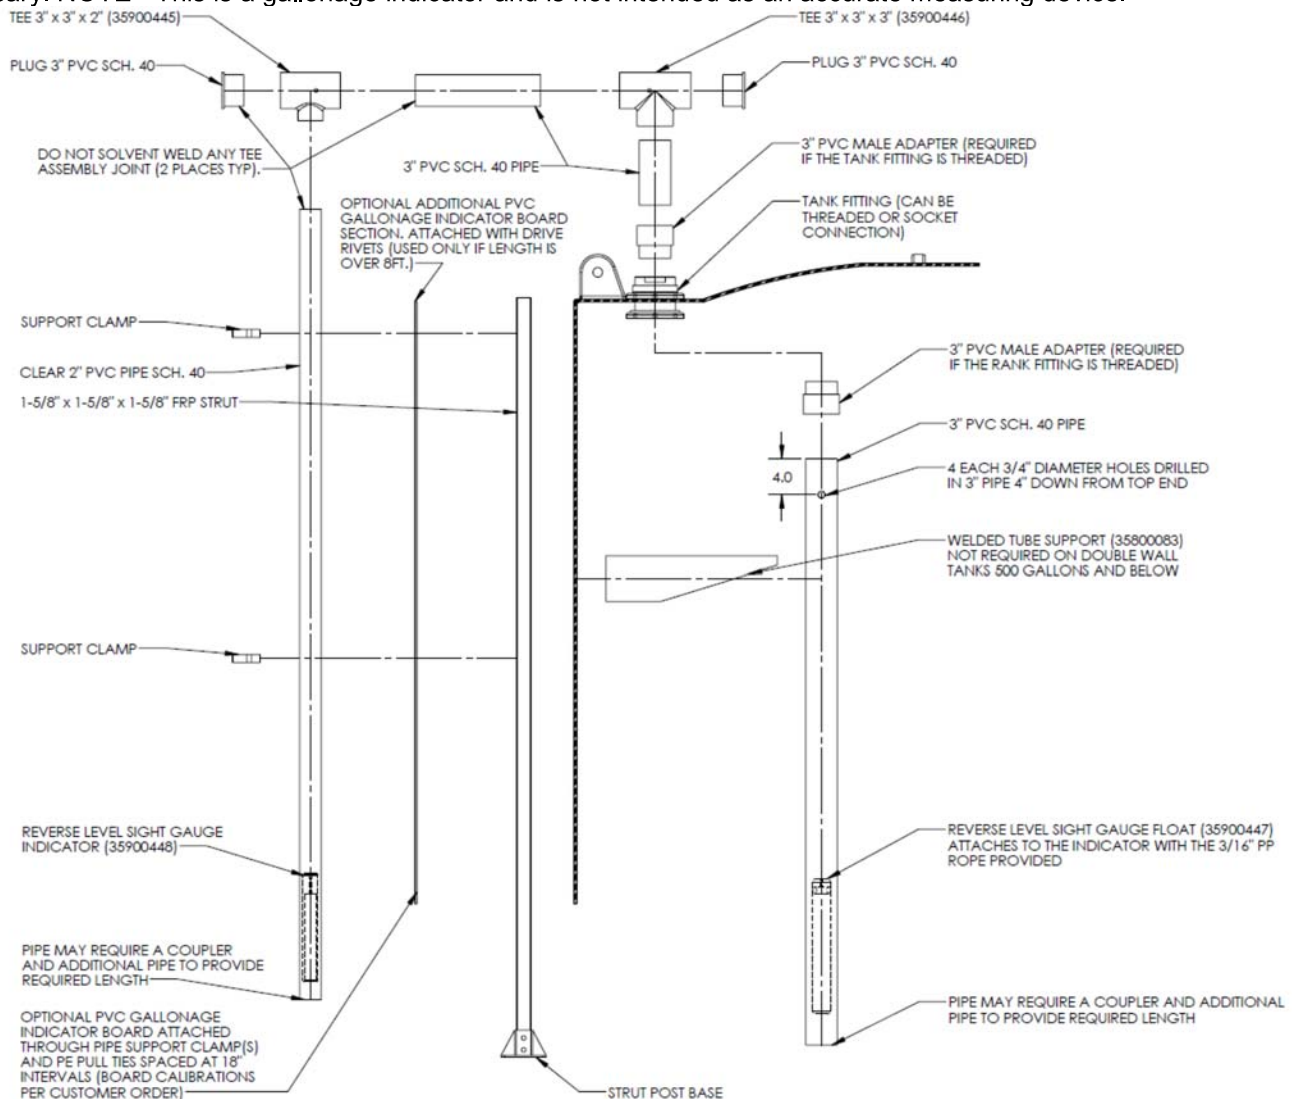

Figure 7.8
7.9.2 Assemble the piping loosely using Figure 7.8, the guidelines detailed below, and the customer approved tank drawing to ensure all parts are present and cut to length. As soon as all parts have been checked, assemble the parts with solvent weld cement and/or threaded connections as shown in Figure 7.8. NOTE - Do not use solvent weld cement on the PVC plugs as indicated in Figure 7.8 to allow for periodic inspection of the rollers in the tee assemblies and the rope to ensure proper operation of the gauge. If it is a requirement to seal these joints, a silicone based caulking should be sufficient.
7.9.3 Mark the strut post base on the concrete when in proper position. Install 4 ea. 3/8" adhesive anchors and secure the base into position. Make sure that the gallon indicator board (if ordered) has been installed between the strut catcher and pipe clamp as shown in Figure 7.8. Assemble and install piping as per the customer approved drawing. As piping is being installed on the tank, squeeze the pipe clamps together to secure the pipe to the FRP channel.